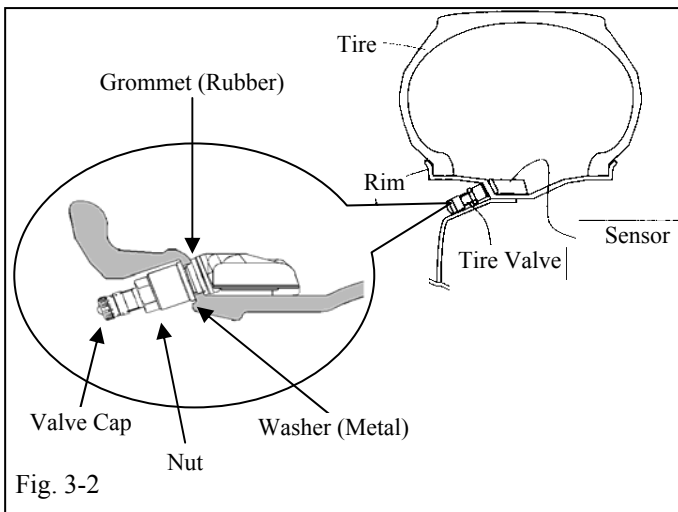

Fig. 3-2
- (e) Insert the tire pressure monitor valve sub-assembly into the valve installation hole from the inside of the rim and bring the valve stem to the outside. (Fig. 3-2).
- (1) Insert the tire pressure monitor valve sub-assembly so that "PACIFIC" mark is visible.